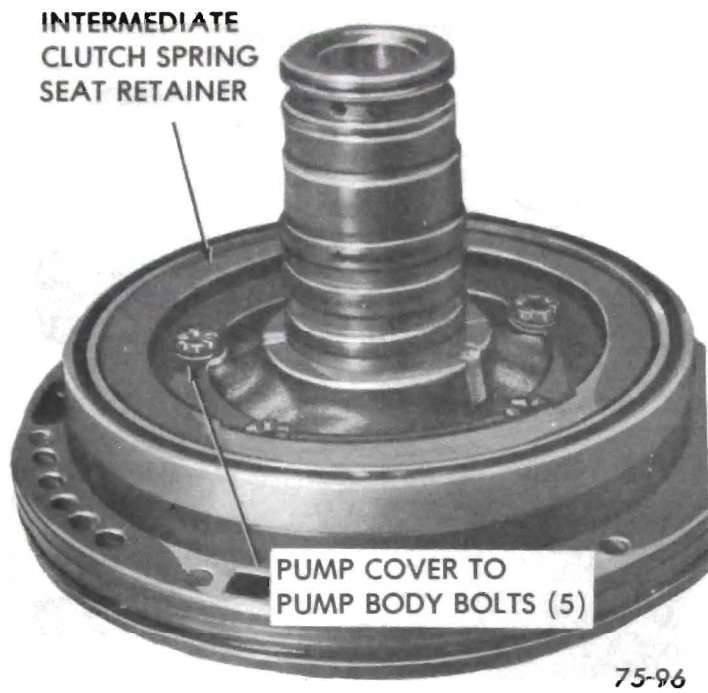

Figure 75-132
1. Place assembly through hole in bench. Remove five (5) pump cover to body attaching bolts. Remove spring seat retainer. See Figure 75-132.
7. Install spring retainer and install five (5) attaching bolts, finger tight. See Figure 75-132.